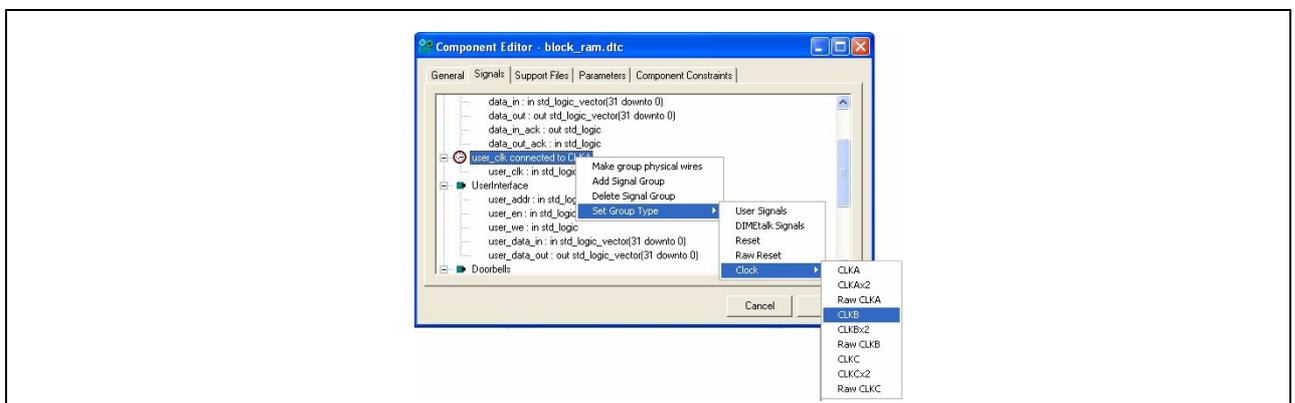

Figure 57: Signals Tab in Component Editor
- The 'Signals' tab shows the external interface to the component. This tab can be used to alter the default connection for signals and resets. For example, right-click on 'user_clk connected to CLKA' and choose **Set Group Type>Clock>CLKB** from the menus as shown in Figure 57. This connects the DIMEtalk signal to Clock B.